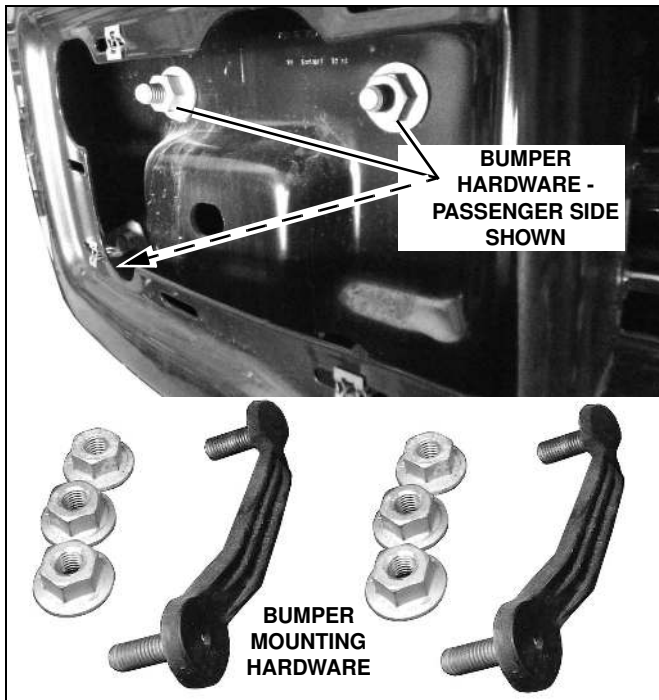

Figure 10
- Disconnect the fog lamps, if equipped and any harnesses attached to the bumper. Remove the 3 nuts on each side, holding the bumper to the truck frame. Remove the bumper. (See Figure 10)